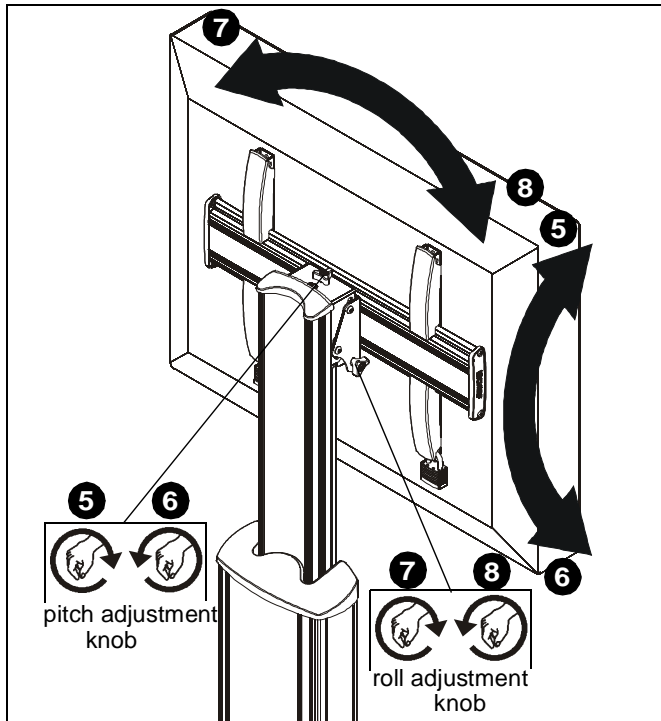

Figure 17
- Turn pitch adjustment knob clockwise to tilt display forward. (See Figure 17)
- Turn pitch adjustment knob counterclockwise to tilt display back. (See Figure 17)
- Turn roll adjustment knob clockwise to adjust roll to the left. (See Figure 17)
- Turn roll adjustment knob counterclockwise to adjust roll to the right. (See Figure 17)